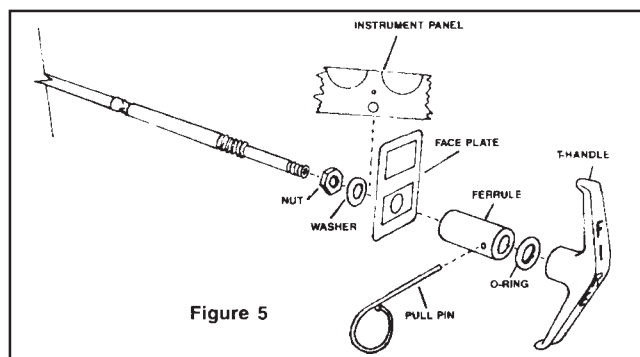

Figure 5
- The area selected must be structurally secure and provide at least twelve (12) inches (305mm) of clearance at the rear of the panel to facilitate cable hardware.
- The cumulative number of bends in the cable run must never exceed 360 degrees. This is equivalent to four (4) right (90°) angles. Use extreme care when bending cable to avoid kinking. Never form a bend with a radius of less than twelve (12) inches (305mm). Selection of the correct size Sea-Fire cable length will eliminate cable coil.
- Using the manual discharge faceplate as a template (**Figure 5**) mark and drill a 13/32 inch (10.4mm) hole. Install the manual release cable adhering to the guideline in Step 1 above.
- d. Following the diagram in **Figure 5**, install the nut and lock washer on the cable and insert the cable end through the panel and faceplate hole. Extend cable shaft out to its fullest and install ferrule by screwing onto the cable shaft end. Do not over tighten. Four or five turns are sufficient.
- f. Push the handle into the ferrule. This will seat the o-ring seal. Align the pull pinholes in the handle and ferrule and insert the pull pin (**Figure 5**).